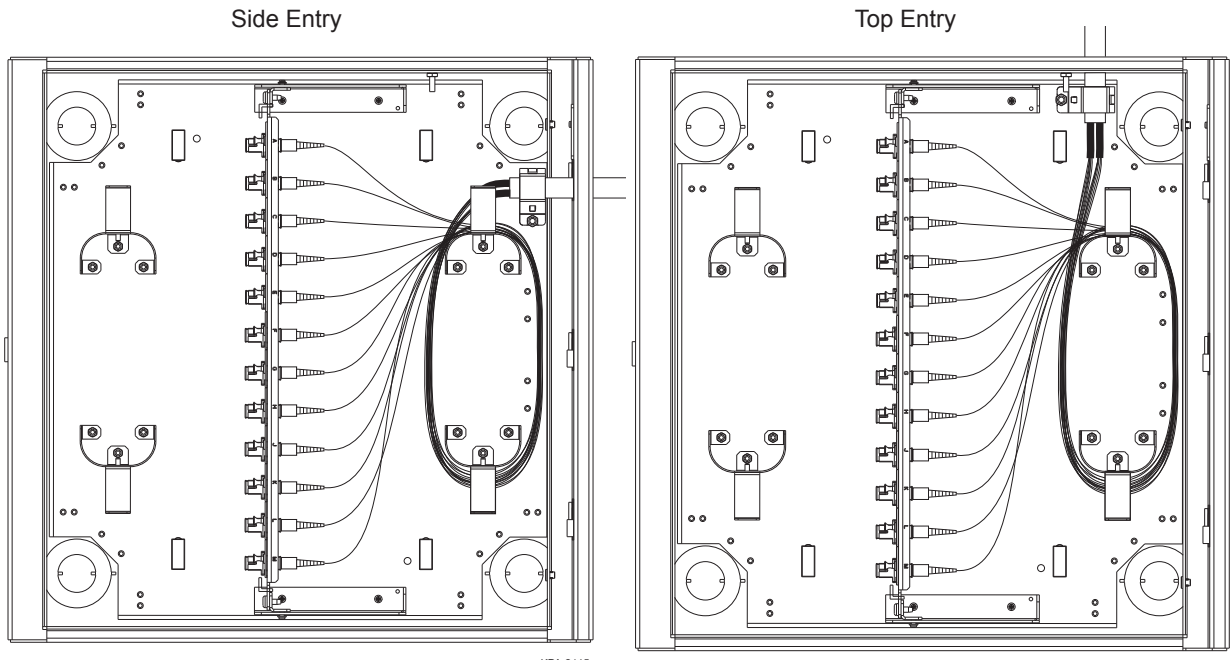

Figure 18
- Step 4:** Route the fiber around the fiber guides on the inner tray. Make sure there is adequate slack so that the fiber bend radius is maintained across the routing guides. Refer to Figure 18 for examples of routing configurations.